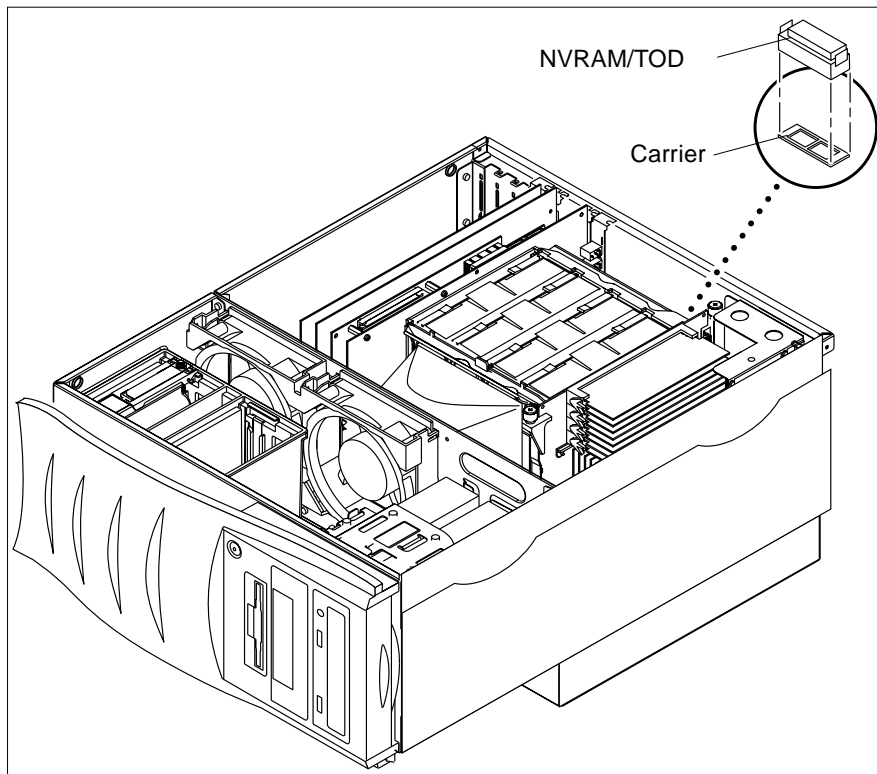

FIGURE 9-3 Removing and Replacing the NVRAM/TOD
3. Remove the NVRAM/TOD as follows (FIGURE 9-3):
1. **Replace the NVRAM/TOD as follows (FIGURE 9-3):**